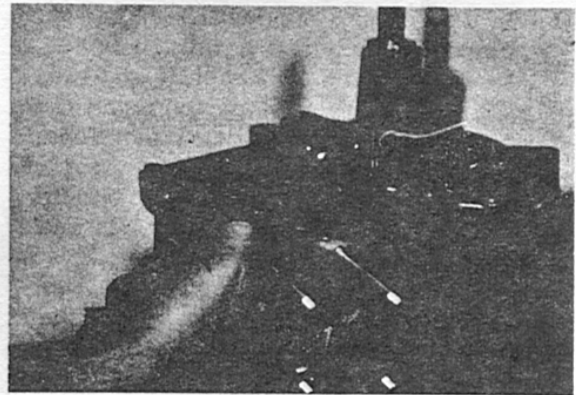

Fig. 9
35. To remove the rotary valve disc, insert your finger up through the bottom of the fuel inlet port and gently dislodge the rotary valve disc from the crankshaft collar. If a screw driver is used to assist in removing the disc, use extreme caution to avoid damaging any part of the rotary valve cavity. (figure 9)